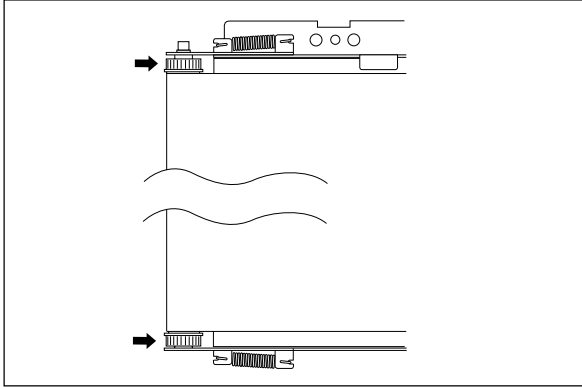

Fig. 13
10) Remove the Endless Sheet. (See Figs. 13, 14, and 15.)
1. Push the sheet roller section inside as shown in Figs. 13 and 14.